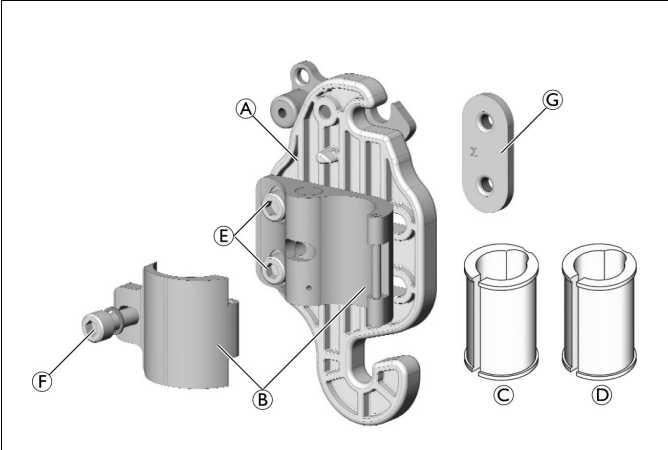

Fig. 1
1.6 Scope of delivery (Fig. 1)